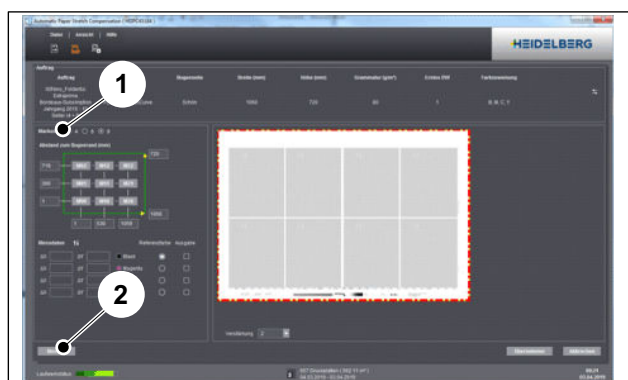

Fig. 16 Dialog box "Measurement data"
The dialog box for the measurement data (Fig. 16) opens.
5. In the selection area **Marks**, choose the number of measuring marks (4, 6 or 9) (Fig. 16/1).
6. Click **Measure** (Fig. 16/2).